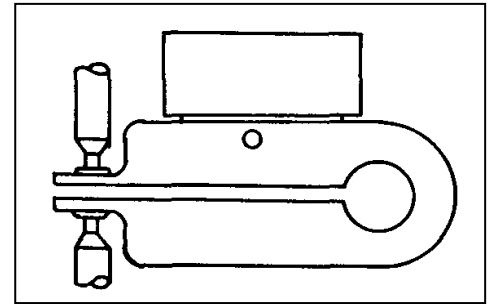

Figure 3-2. Using a Force Gauge to Measure the Weld Firing Force
- 5 Figure 3-2 shows how a Miyachi Unitek Force Gauge can be used to set-up and measure the actual Welding Force . Force Gauges are available in 100 lbs.(FG100), 200 lbs. (FG200), and 100 Kgs. (FG100KG) models.
- 13 Insert a Force Gauge between the electrodes as shown in Figure 3-2. Depress and hold the Footswitch. If the Firing Switch does not close, turn the TOP AIR PRESSURE REGULATOR clockwise until the Firing Switch "clicks". Note the force indication on the Force Gauge when the Weld Head Firing Switch "clicks" and then release the Footswitch. If the Firing Switch closure is inaudible, it is easily detected by connecting an Ohmmeter or continuity checker to the Firing Switch Connector pins. If more Welding Force is needed, go to Step 14. If less Welding Force is required, go to Step 15.